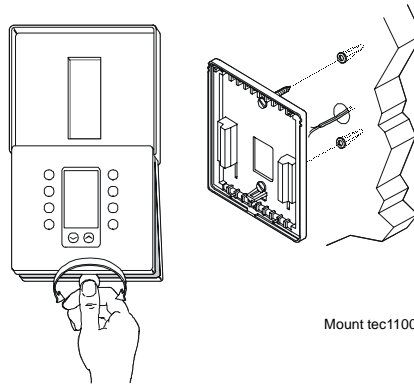

Figure 2: Separating and Mounting the TEC1100
2. Twist 1/4 turn (Figure 2).
9. Place thermostat mounting holes over anchors, and screw the thermostat into place using the included anchor screws (Figure 2).